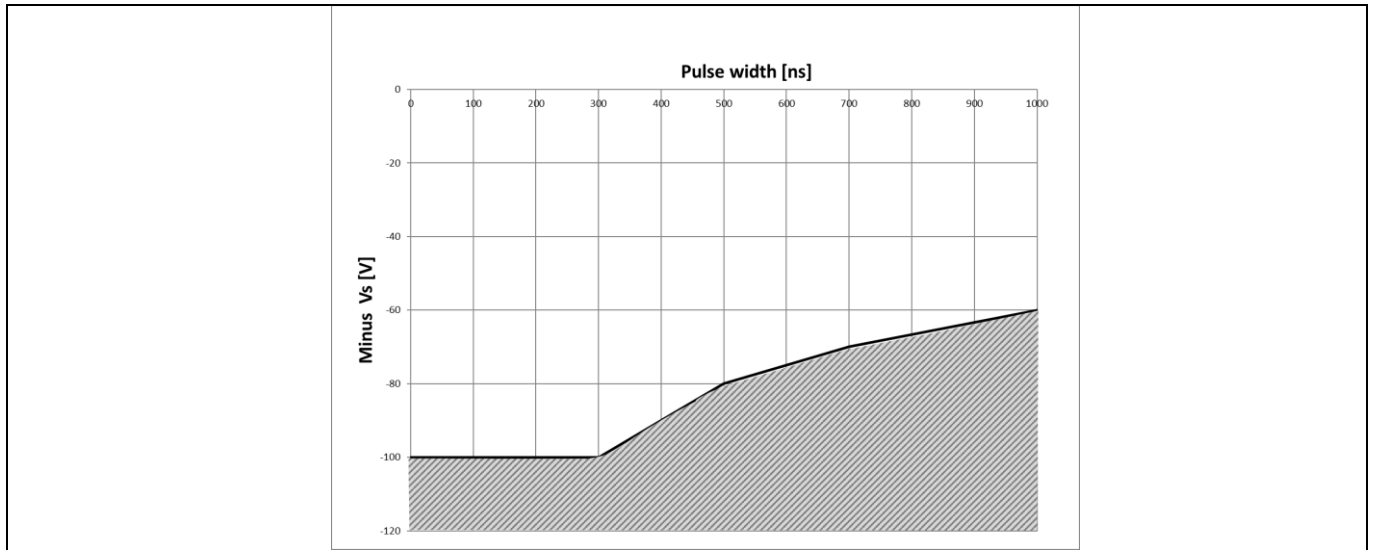

Figure 18 Negative VS transient SOA for 2ED2106 (4) S06F (J) @ $V_{BS} = 15\text{ V}$
Infineon’s HVICs have been designed for the robustness required in many of today’s demanding applications. An indication of the 2ED2106 (4) S06F (J)’s robustness can be seen in Figure 18, where the 2ED2106 (4) S06F (J)’s Safe Operating Area is shown at $V_{BS}=15$ V based on repetitive negative V_S spikes. A negative V_S transient voltage falling in the grey area (outside SOA) may lead to IC permanent damage; viceversa unwanted functional anomalies or permanent damage to the IC do not appear if negative V_S transients fall inside the SOA.